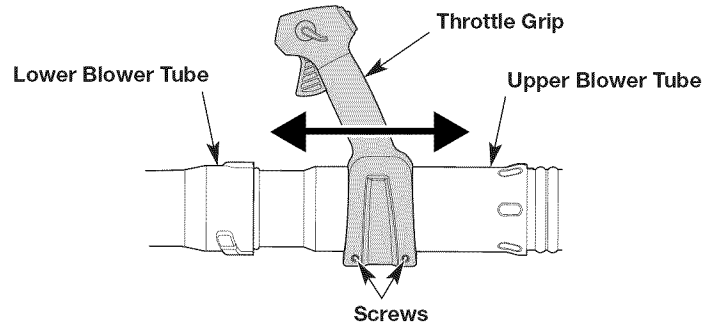

Fig. 6
1. Loosen the two (2) screws on the throttle grip (Fig. 6) with a T-20 Torx® screwdriver.
2. Move the throttle grip to a location on the upper blower tube that provides the best grip (Fig. 6).
3. Tighten the two (2) screws on the throttle grip with a T-20 Torx screwdriver until the throttle grip is secure (Fig. 6).